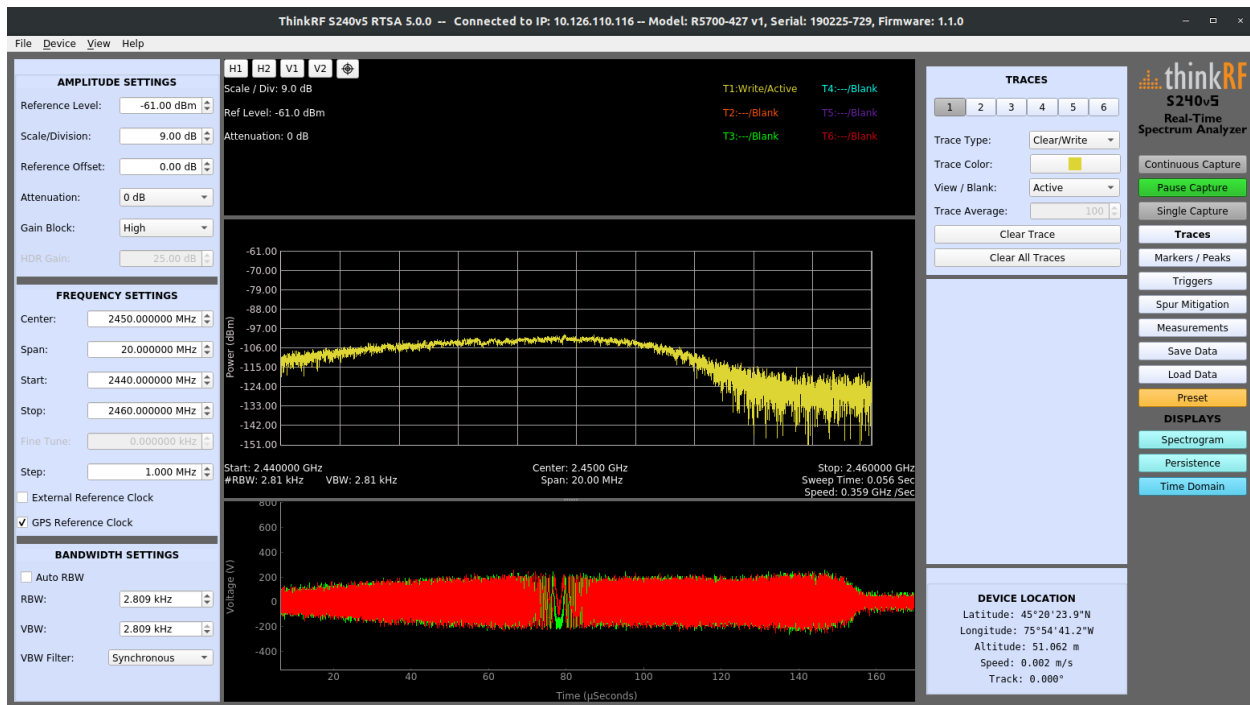

Figure 6: Time Domain Plots
The Time Domain plot shows a time-domain waveform in green for in-phase (I) data and another in red for the quadrature (Q) data when available. Quadrature data is only available when down-sampling applied at frequencies above 50MHz range, which happens automatically for Span values of 40MHz down to 100.001kHz. Figure 6 shows an example of the time-domain I/Q waveforms.